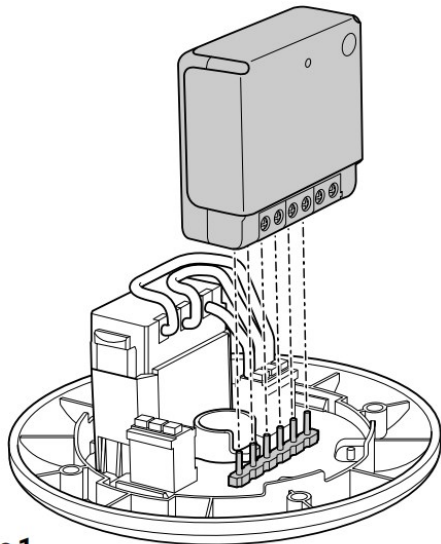

Figure 1
2. Insert the relay switch into its DCL, see **figure 1**.